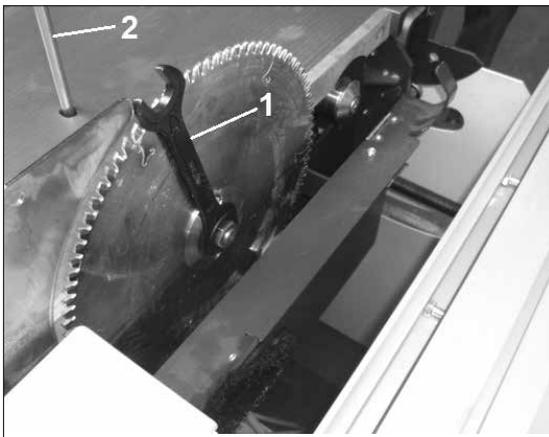

Fig.9
Put the locking pin (fig.9,2) in the opening of the sawtable and turn the arbor with the spanner until the locking pin (2) engages in the hole in the saw arbor pulley.